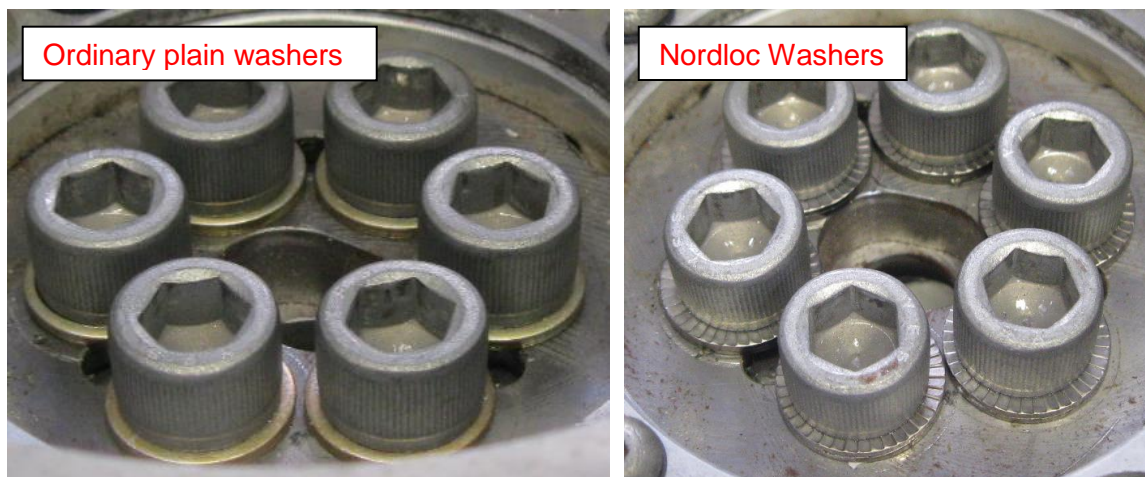

Figure 45 - Plain washers compared to Nordloc washers
- Figure 45 shows the difference between plain and Nordloc washers